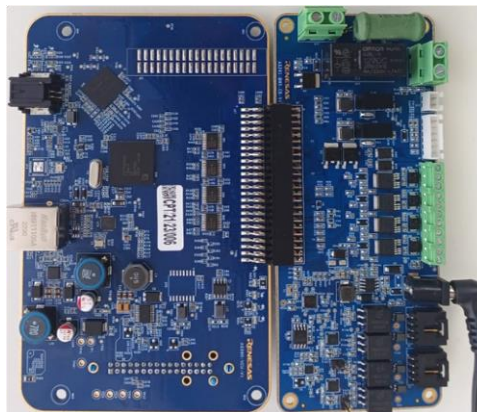

Figure 4-22 Connection with Companion board of AS261 BMS solution
1. Connect AS260-VCU-V1 to CB board of AS261 using I/O connector as shown in Figure 4-22.